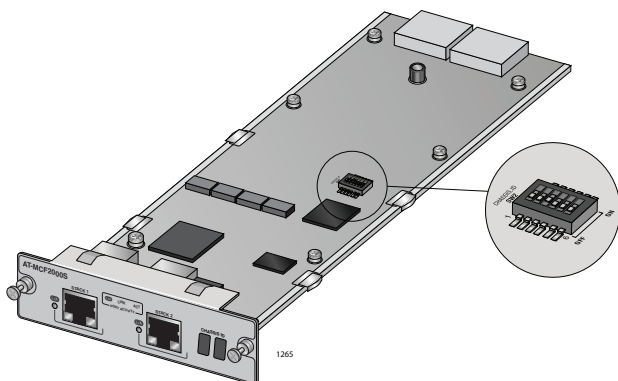

Figure 3. Changing the DIP switch
4. Set the chassis ID of the stacking module. Use the tip of a ballpoint pen to change the setting of the DIP switch. See Figure 3 on page 20. The chassis ID can be from 1 through 30. The default value is 1.